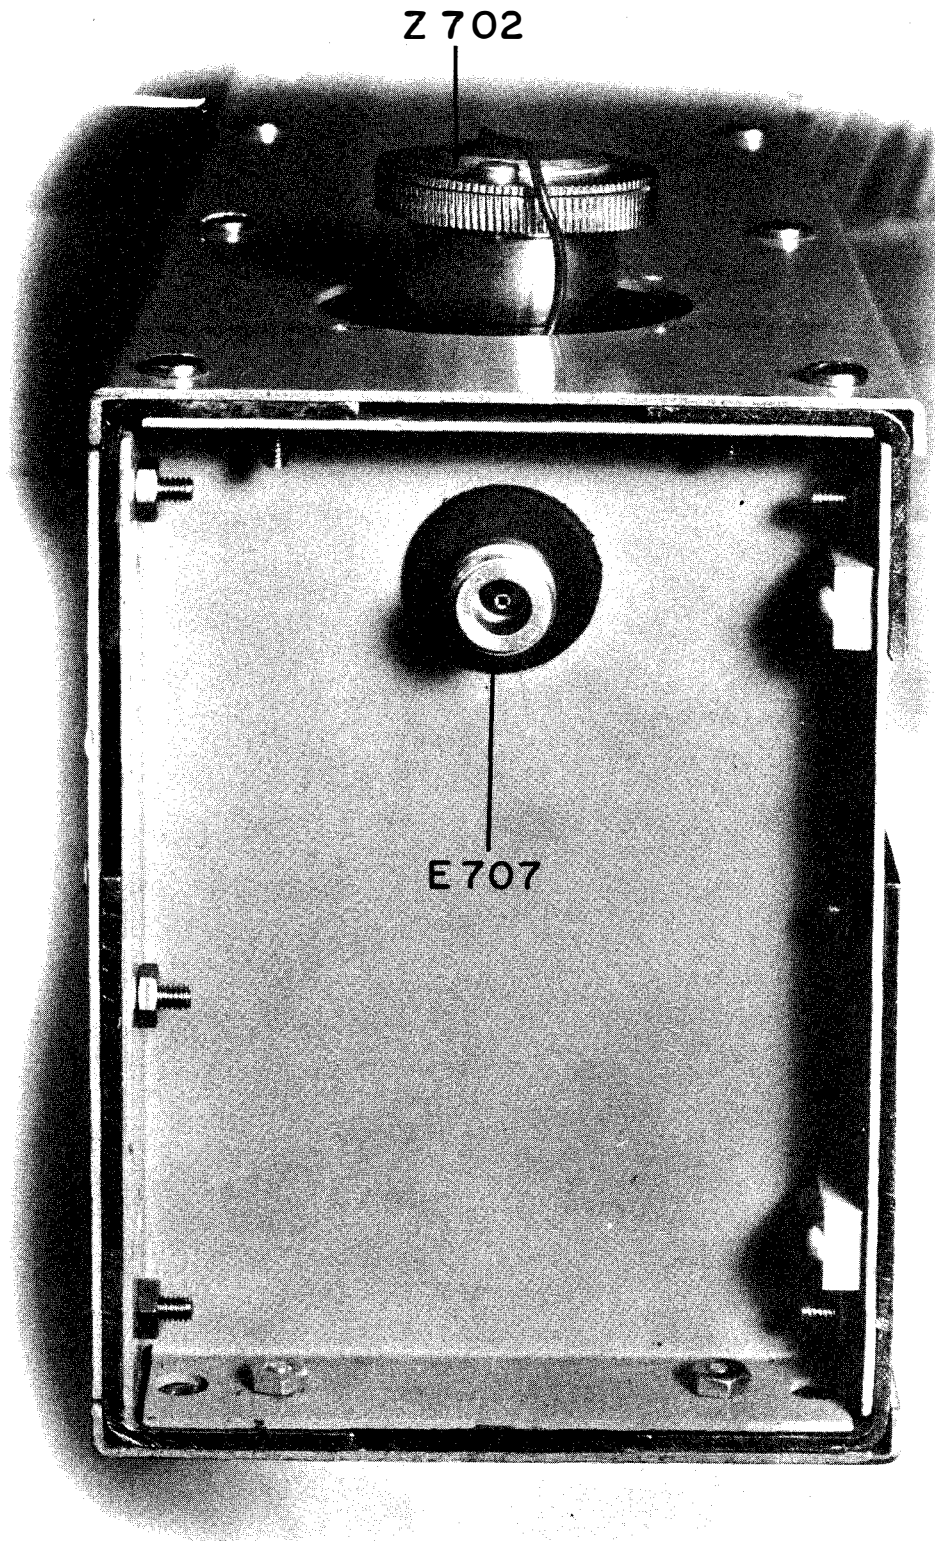

Figure 3-10. Bottom View of Antenna Couplers
b. The transmitter-receiver feedline should be connected to the adapter E707 on the bottom of the equipment. See Figure 3-10.